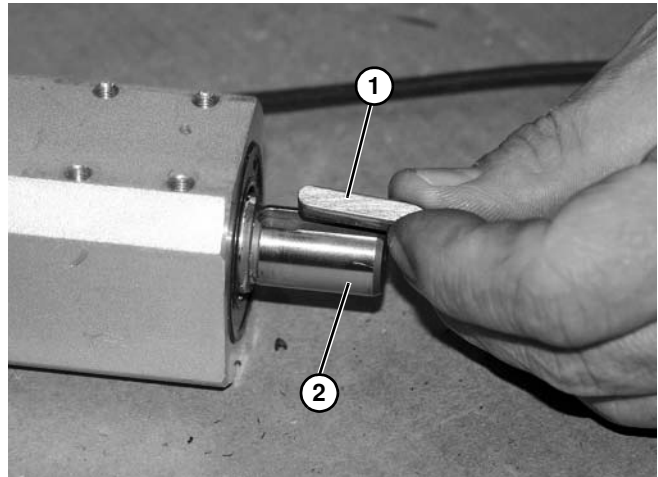

Figure 106
12. Remove and retain key (**Figure 106, item 1**) on motor shaft (**Figure 106, item 2**).